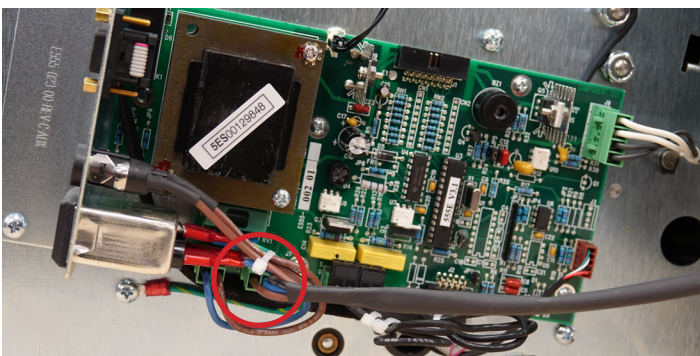

Figure 15-3
5. Remove the switch connector from the controller board (Figure 15-3)